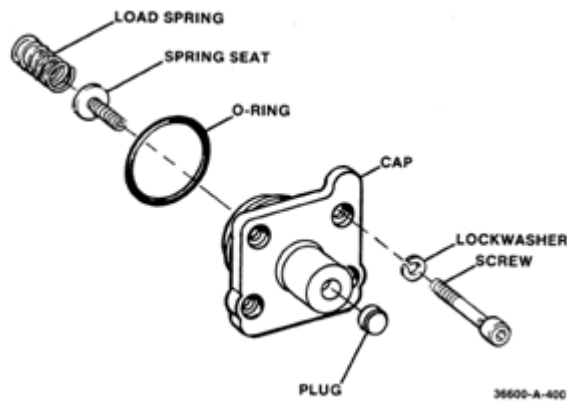

Figure 5-52. Lube Oil Shutdown Cap
25. Install load spring, spring seat, O-ring, and end cap. Secure with lockwashers and screws (Figure 5-52).